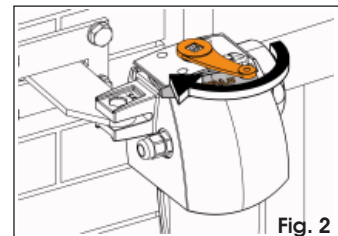

Fig. 2
3. Turn the key in the direction of the arrow (Fig.2) – the release lever opens slightly to facilitate meshing.